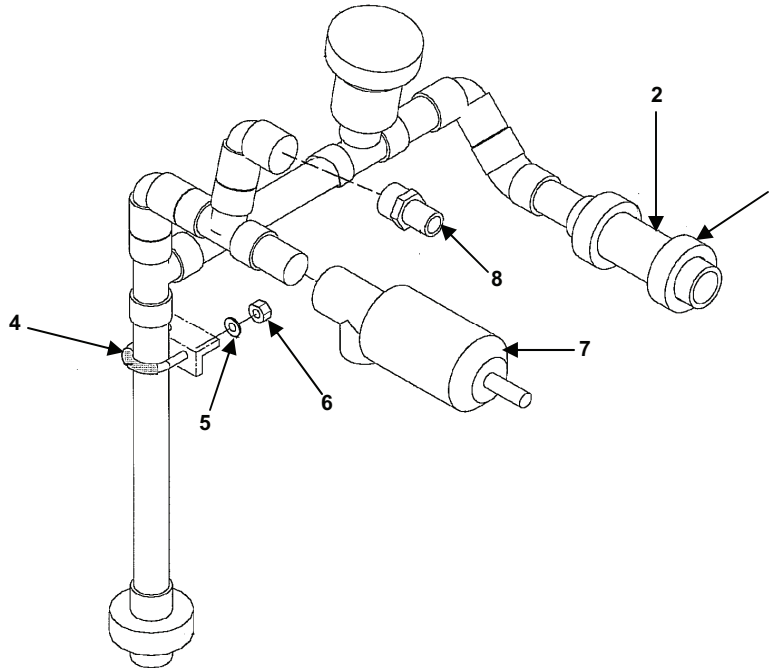

Figure 12. Tank Vent Piping.
1. Loosen unions (Figure 12, Item 1) and (Figure 12, Item 9).
2. Remove nuts (Figure 12, Item 6), washers (Figure 12, Item 5) and remove U-bolt (Figure 12, Item 4).
3. Remove check valve (Figure 12, Item 2), vacuum breaker (Figure 12, Item 3), hose adapter (Figure 12, Item 8), and pressure relief valve (Figure 12, Item 7) only if necessary.
1. Refer to Figure 12 for this piping.
3. Tighten the unions (Figure 12, Item 1 and 9).
4. Install the U-bolt (Figure 12, Item 4) and fasten the lock nuts (Figure 12, Item 6) washers (Figure 12, Item 5) to the U-bolt (Figure 12, Item 4).
5. Install the check valve (Figure 12, Item 2) if necessary. Ensure that the arrow on the body of the check valve is in line with the direction of the flow.
6. Install the vacuum breaker (Figure 12, Item 3), hose adapter (Figure 12, Item 8), and pressure relief valve (Figure 12, Item 7) if necessary.